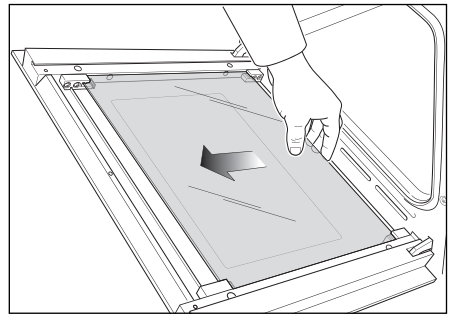

Fig.52b
- Gently unlock the middle pane of glass from the bottom clamps by moving it as in Fig. 52b.